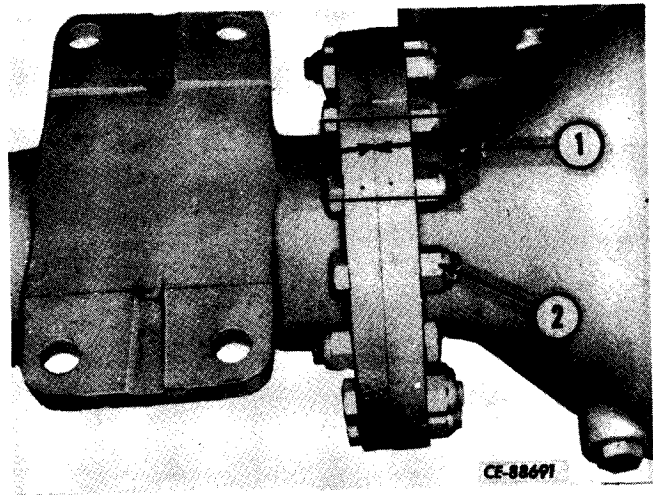
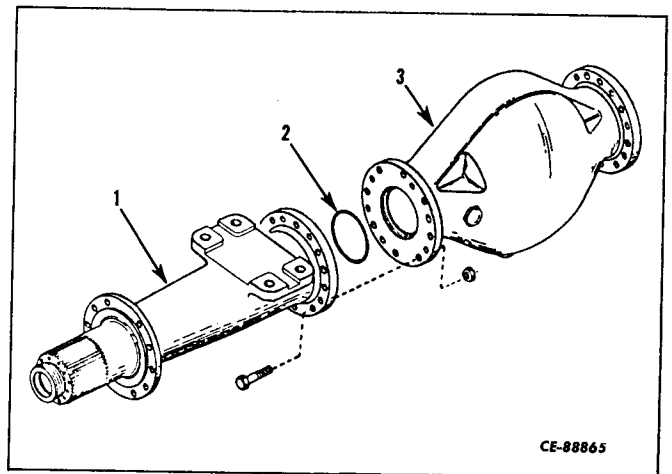

Figure 6-18
Figure 6-19
If a section of the axle housing requires removal, index the two pieces to be separated with a felt marker or two punch marks (1, Fig. 6-18) to insure correct assembly.
Install new "O"-ring (2, Fig. 6-19) in position on axle housing (1) boss. Align the identification marks (1, Fig. 6-18) on the two housings (1, 3) and secure with cap screws and hex nuts (nut face in toward differential). Tighten hex nuts to